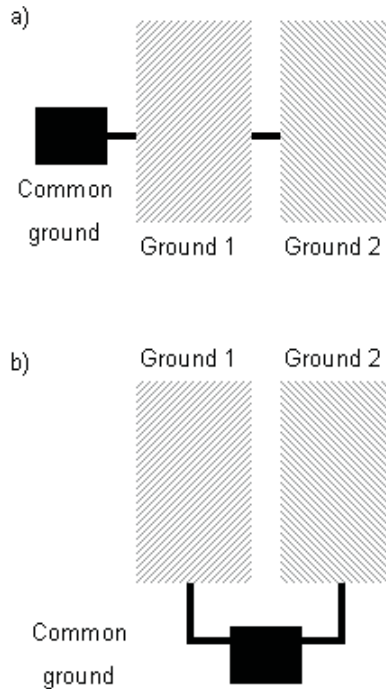

Figure 8. Poor and Good Placement of the Common Ground in a Split Ground Environment
Figure 8: Do not let one ground plane pass another ground plane to get connected to the common ground (a). Every ground plane must have its own path to the common ground to reduce noise (b).
- The return current of a subsystem (e.g., an analog system or transmitter path) must not be in the path of the other subsystem (digital system or receiver path). The return current should flow directly to the common ground point (Figure 8).